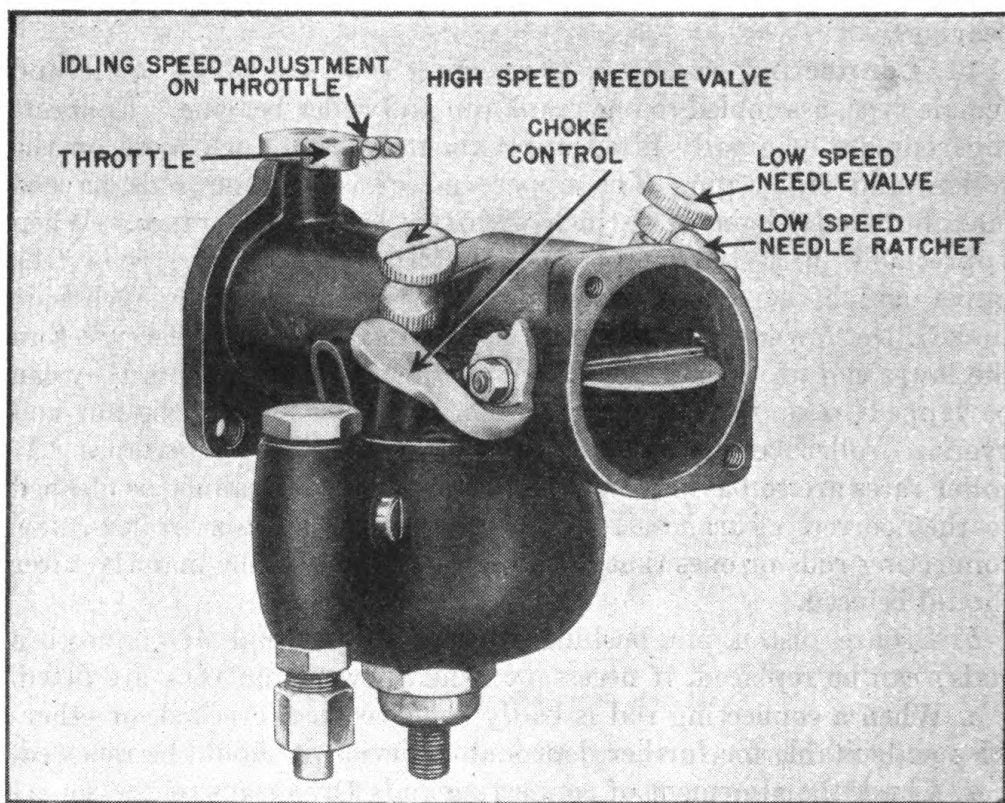

FIGURE 7.—Motorcycle carburetor.
b. The carburetor (fig. 7) should be inspected and cleaned approximately every 1,000 miles; especially under adverse operating conditions. The fuel strainer and line should be cleaned at the same time. The most common carburetor trouble, besides improper adjustment, is water and dirt in the float bowl. Some late model motorcycles have